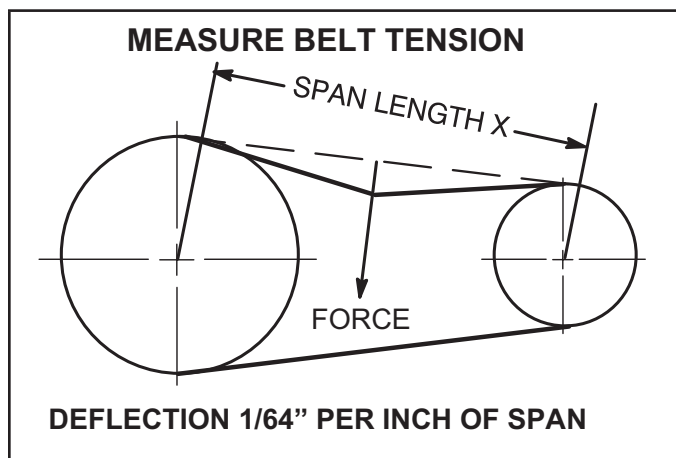

FIGURE 18
- 1 - Measure span length X. See FIGURE 18.
- 2 - Apply perpendicular force to center of span (X) with enough pressure to deflect belt $1/64$ " for every inch of span length.